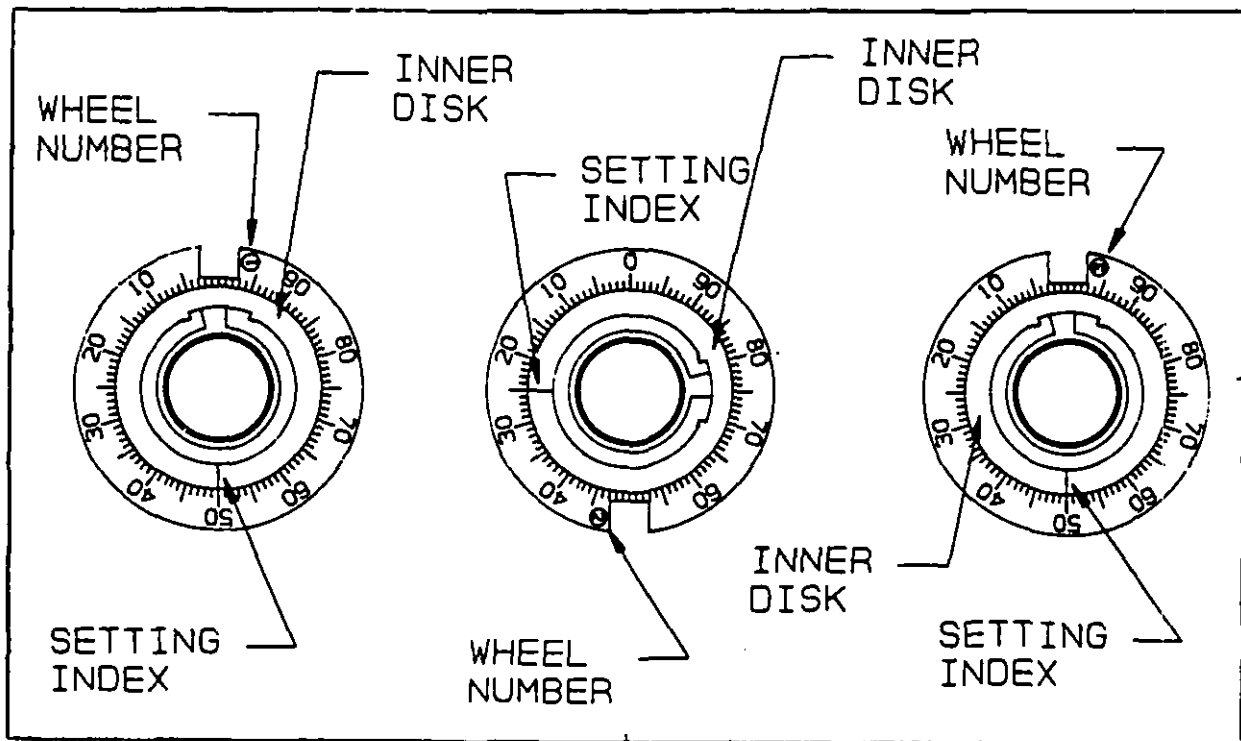

Figure 38
g) Remove the wheels and spacers. The wheels are numbered sequentially on the outer plastic ring (reference Figure 38). Wheel number 1 is set at the first number of the combination and is the wheel adjacent to the back cover plate.
h) Hold the number 1 wheel assembly with the numbers facing upward and push the center disk up until it is removed from the outer ring. Rotate center disk until the setting index is aligned with the desired number on the ring (Figure 38). Press the center disk back into position until it is flush with the outer plastic ring. Observe that numbers increase counterclockwise on the wheels. Change the combination settings on the remaining wheels in the same manner.
i) Replace the parts on the post in the proper sequence. To help identify wheels for proper reassembly, each Mosler wheel has a number 1, 2, or 3 molded next to one side of the gate (reference Figure 38). Further confirmation is gained by observing that the gate (cutout) of the middle wheel (wheel No. 2) is 180 degrees opposite 0. There may be more than one tension washer at the base of the wheel post. The numbered sides of the wheels face upward. When the retaining ring is replaced, check to ensure that it is properly seated in the groove on the post and that all wheels and spacers are properly mounted on the wheel post.